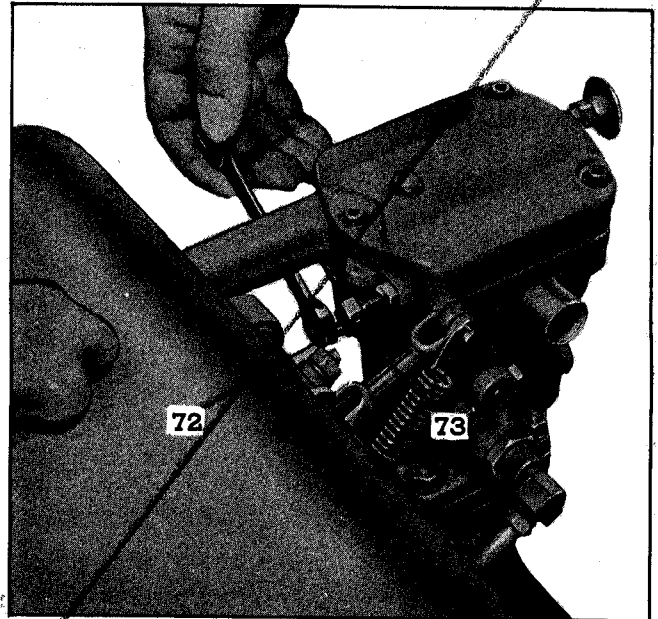

Fig. 17—Adjusting Maximum No-Load Speed.
3. Loosen lock nut (73), Fig. 17, and back off maximum speed adjusting screw (72) approximately $\frac{5}{8}$ ".
1. With engine operating at no-load loosen lock nut (73), Fig. 17. Turn screw (72) in until engine speed is approximately 8% higher than the rated full load speed.
2. Tighten lock nut (73). Install governor cover.